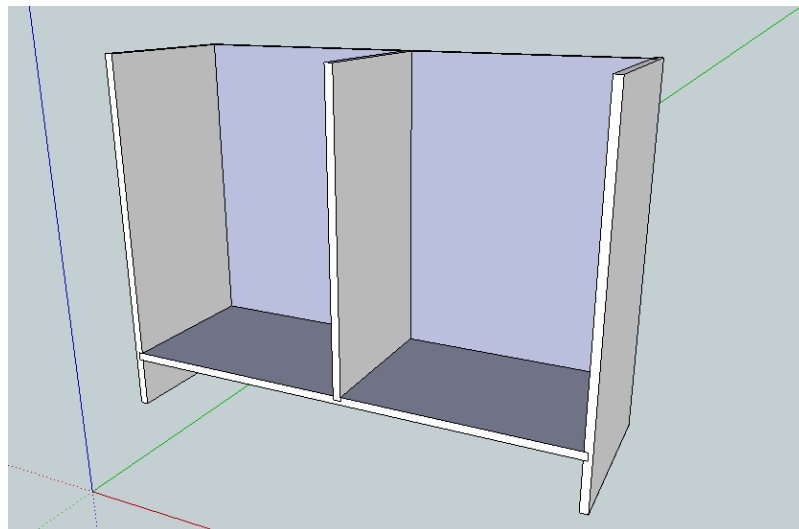

Figure 18: Bottom Cabinet Assembled
3. The Bottom Cabinet Divider is the next piece to be inserted. Apply a liberal bead of wood glue into the grooves on the bottom and back sections. Insert the divider into the groove and flush the divider with the front edge of the bottom. The divider can be held in place with either brad nails from behind or below or wood screws since they won't be seen. See Figure 18.